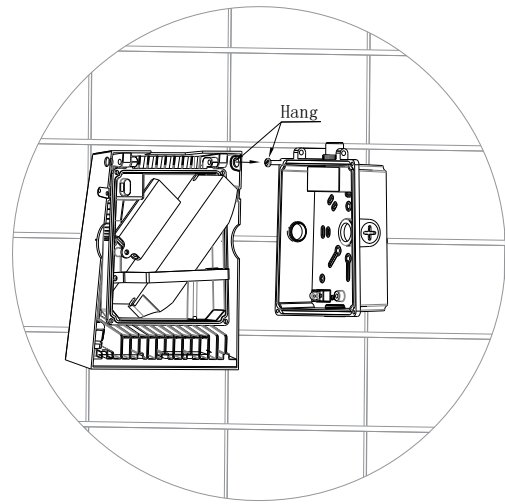

Fig.2
3. Hang the light body on the bolt of the housing to make convenient for single electrical wire connection (Fig2)